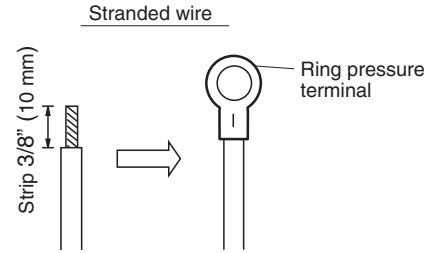

Fig. 4-6
- (1) Cut the wire end with cutting pliers, then strip the insulation to expose the stranded wiring approx. 3/8 inch (10 mm) and tightly twist the wire ends. (Fig. 4-6)
- (2) Using a Phillips head screwdriver, remove the terminal screw(s) on the terminal board.
- (3) Using a ring connector fastener or pliers, securely clamp each stripped wire end with a ring pressure terminal.